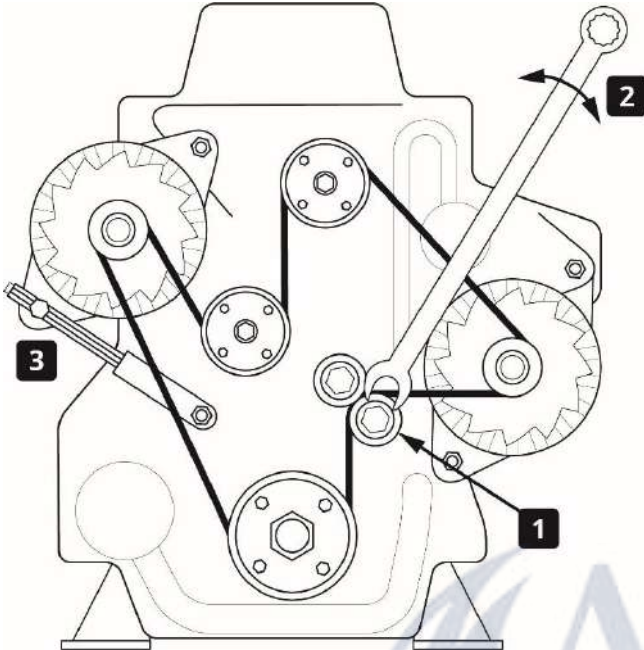

Figure 9: Re-installation with auto-tensioner
1. Run the drive belt through the pulleys, skipping the auto-tensioner (item 1 in Figure 9).
2. Loosen the auto-tensioner using a wrench (item 2 in Figure 9).
3. With the belt around all the other pulleys, slide it over the auto-tensioner (item 1 in Figure 9) while still holding pressure on the wrench.
2. Tip the alternator forward and loosely fix the adjustment ear to the adjustment arm (item 3 in Figure 9).